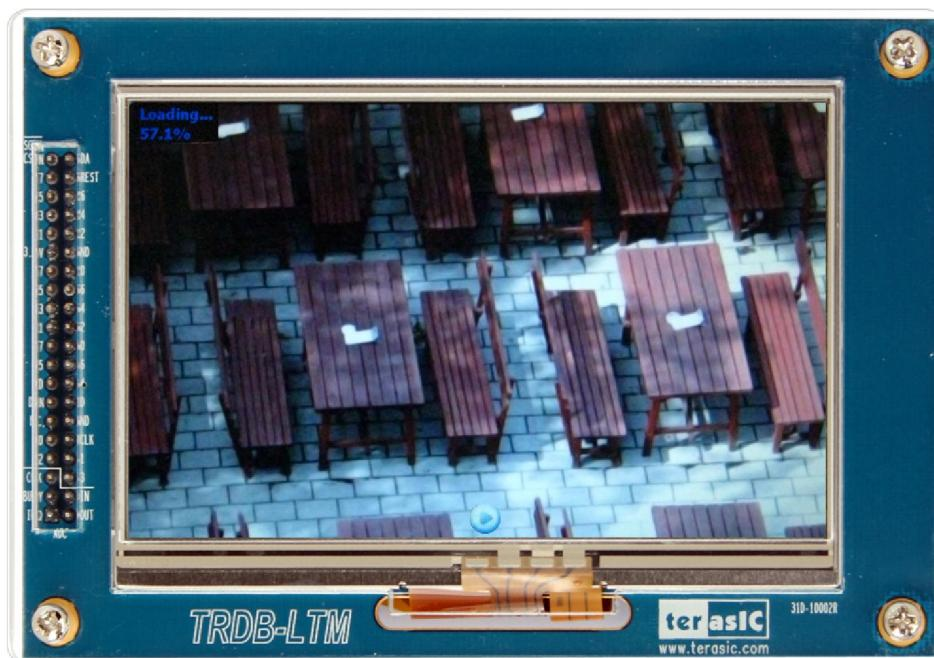

Figure 4.19 Picture viewer demonstration runtime screen shot
- Touch the play button will proceed to display the next image, as shown in Figure 4.19